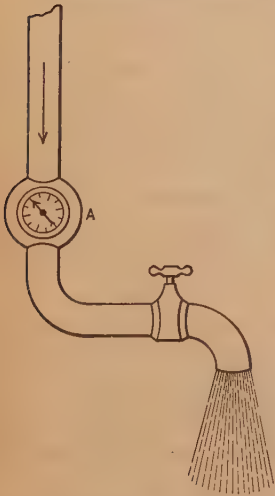

Fig. 7. Flowmeter A measures the gallons per sec. of water flowing through the pipe.
If we wish to measure the current of water which is flowing through a pipe, we insert a **flowmeter** into the pipe as (A) in Fig. 7. The current of water flowing through the pipe also flows through the flowmeter and causes it to indicate the number of gallons per second which pass through it. We can't attach an instrument to the outside of the pipe and find the current through the inside. We must open up the pipe and insert the instrument into the line so that the current which we wish to measure tends to flow directly through the instrument.